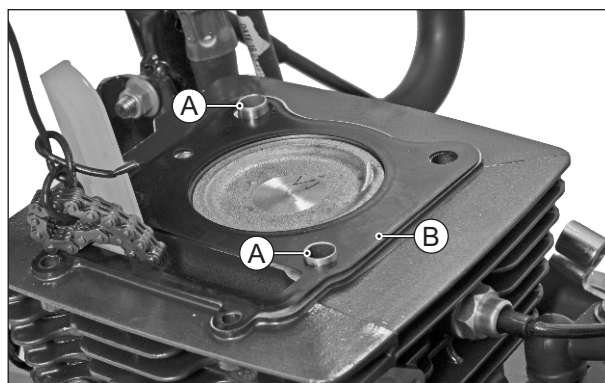

Fig. 3.44
- Take out the tubular dowels (A) either from cylinder head assembly or from cylinder block. (Fig. 3.44)
- Take out the gasket cylinder head (B). (Fig. 3.44)